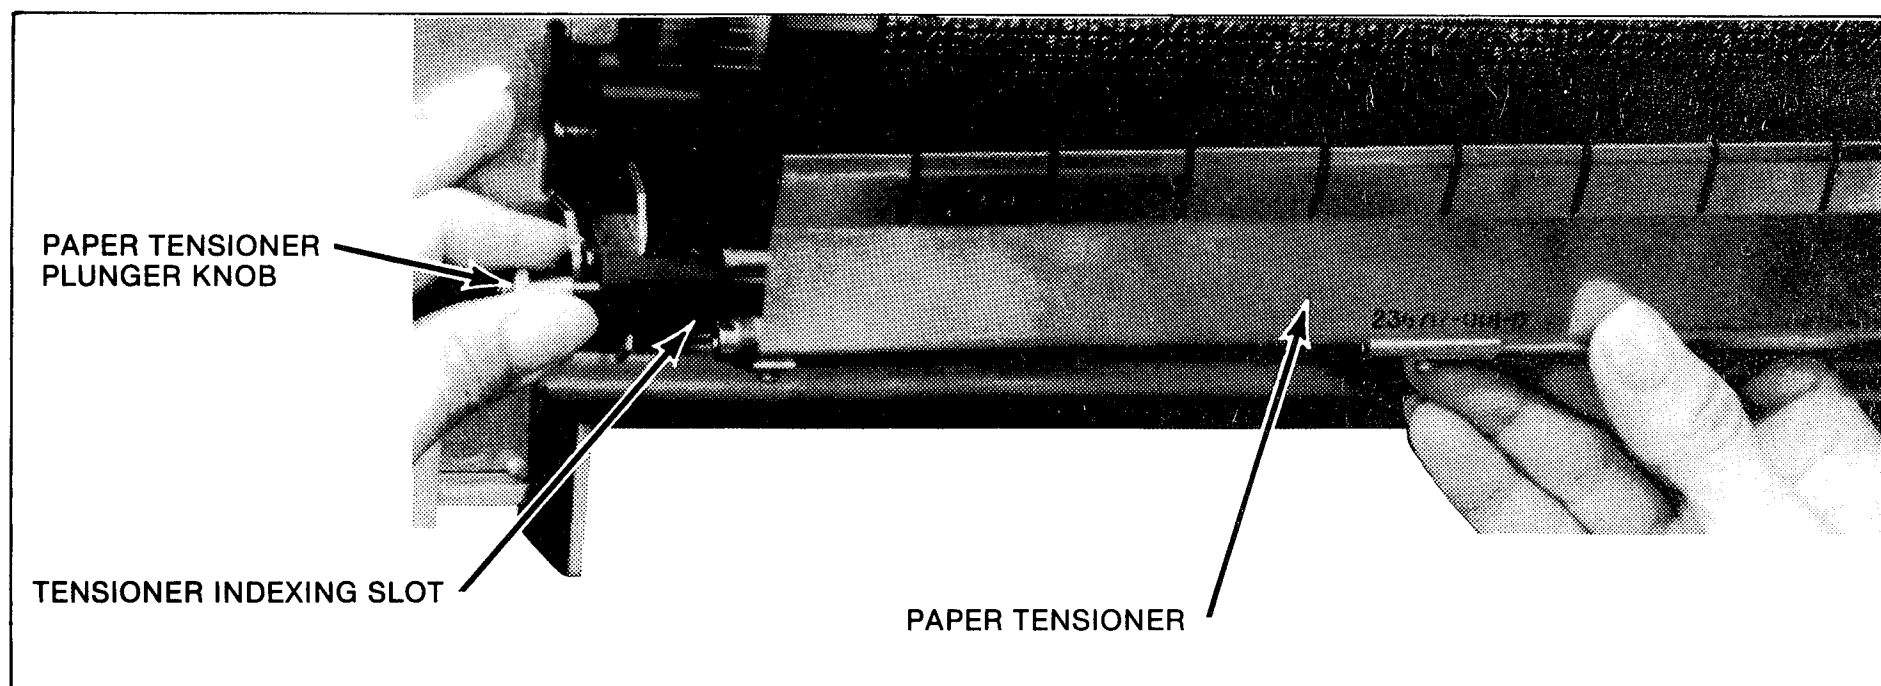

Figure 5. Paper Tensioner Removal
- Holding the paper tensioner with one hand, pull the paper tensioner plunger knob and remove the paper tensioner with one hand, pull the paper tensioner from the drum gate. (See Figure 5.)